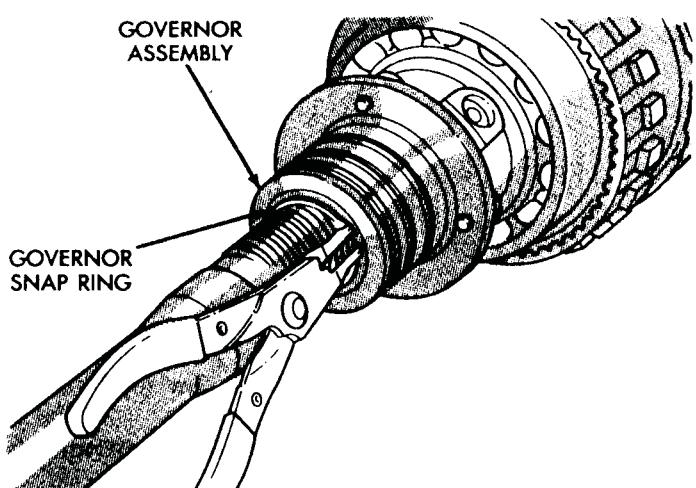

Fig. 17 Removing/Installing Governor Snap Ring
(2) Remove governor snap ring (Fig. 17).